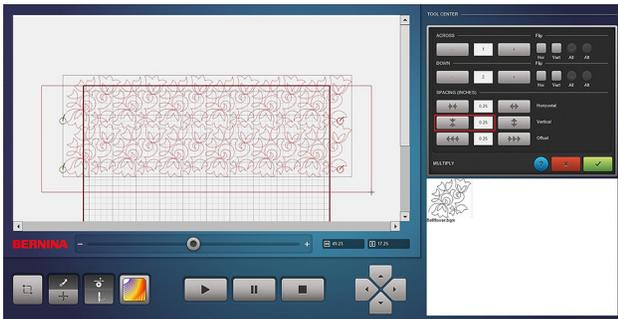

Fig. 53
9. Click the arrows that point together twice to decrease the vertical spacing between design rows under SPACING (Fig. 53).